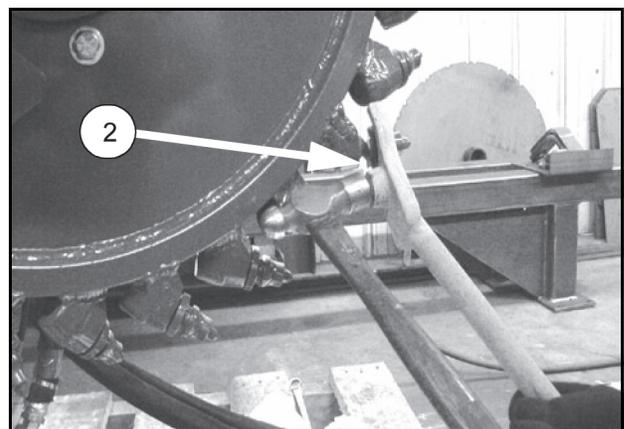

Figure 21.
2. Hit the pick removal tool on the round protrusion to drive the pick out as shown in Figure 21.